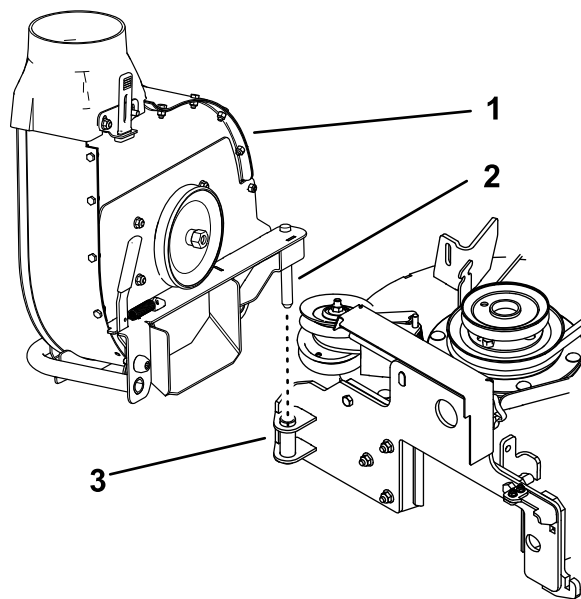

Figure 4
2. Insert the pin from the blower assembly into the blower mount bracket as shown in Figure 4. Do not latch the blower on the blower mount.